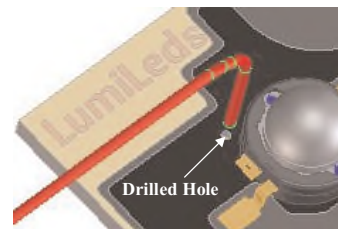

Figure 11. Thermocouple tip inserted in board.
4. If using a larger T or K-type TC, it may not be possible to tape the TC tip flat on the board, which would lead to inaccuracies. In this case, drill a hole, just larger than the TC dia. in the top of the board, 0.03" deep. (Figure 11) Bend the TC tip at right angle. For better contact, dip the TC tip in a conductive paste (e.g. Wakefield Eng. Thermal Compound). Insert the TC tip and secure the TC wire with tape or glue to keep the TC tip fully inserted.